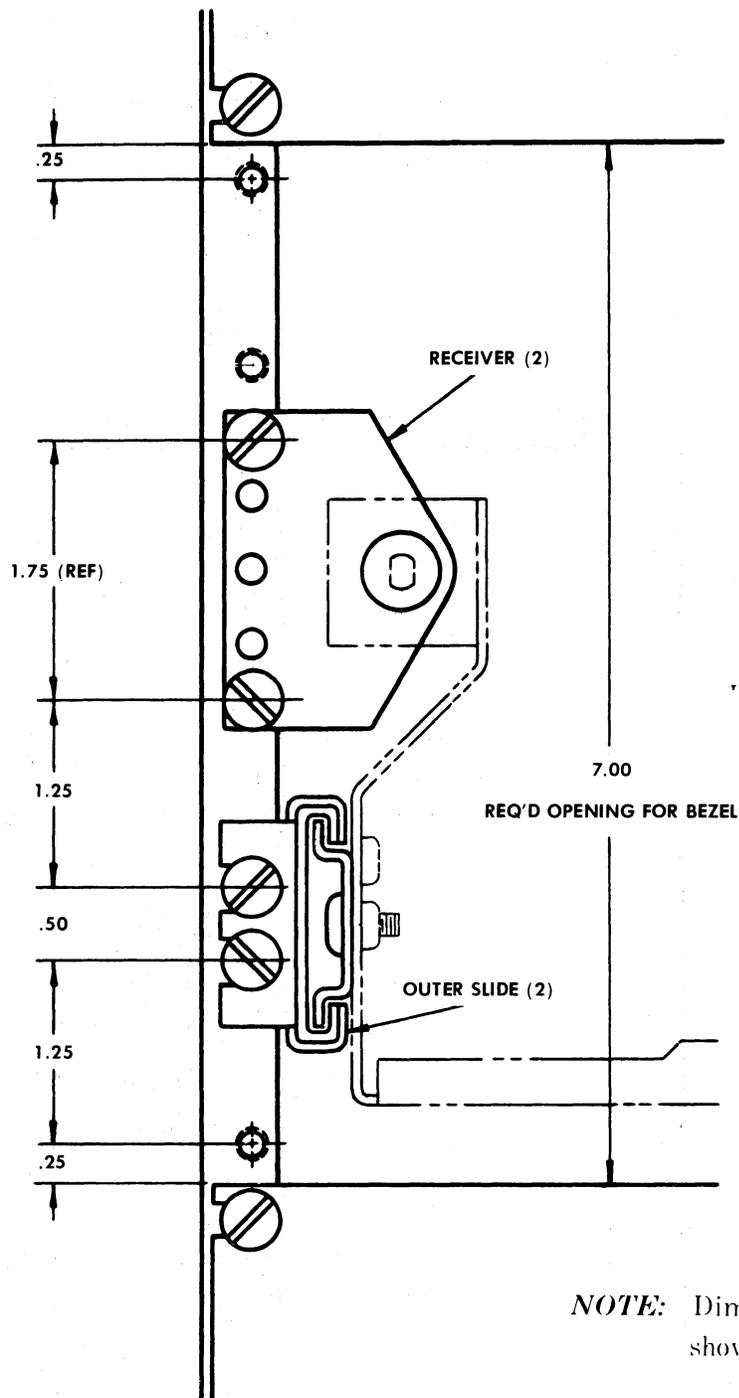

Fig. 9—Rack Slide Receiver Installation for Model 8120A
- (d) Check that the two outer telescoping sections of the slide assemblies mate with the inner options on the support assembly and install in the rack cabinet as shown (Figure 9 or 10) using either two #10-32 x 3/8 or #12-24 x 3/8* screws as required for each of the front brackets, and #10-32 x 3/8 screws and nut plates as required to secure the rear portions of the slides to the rack.